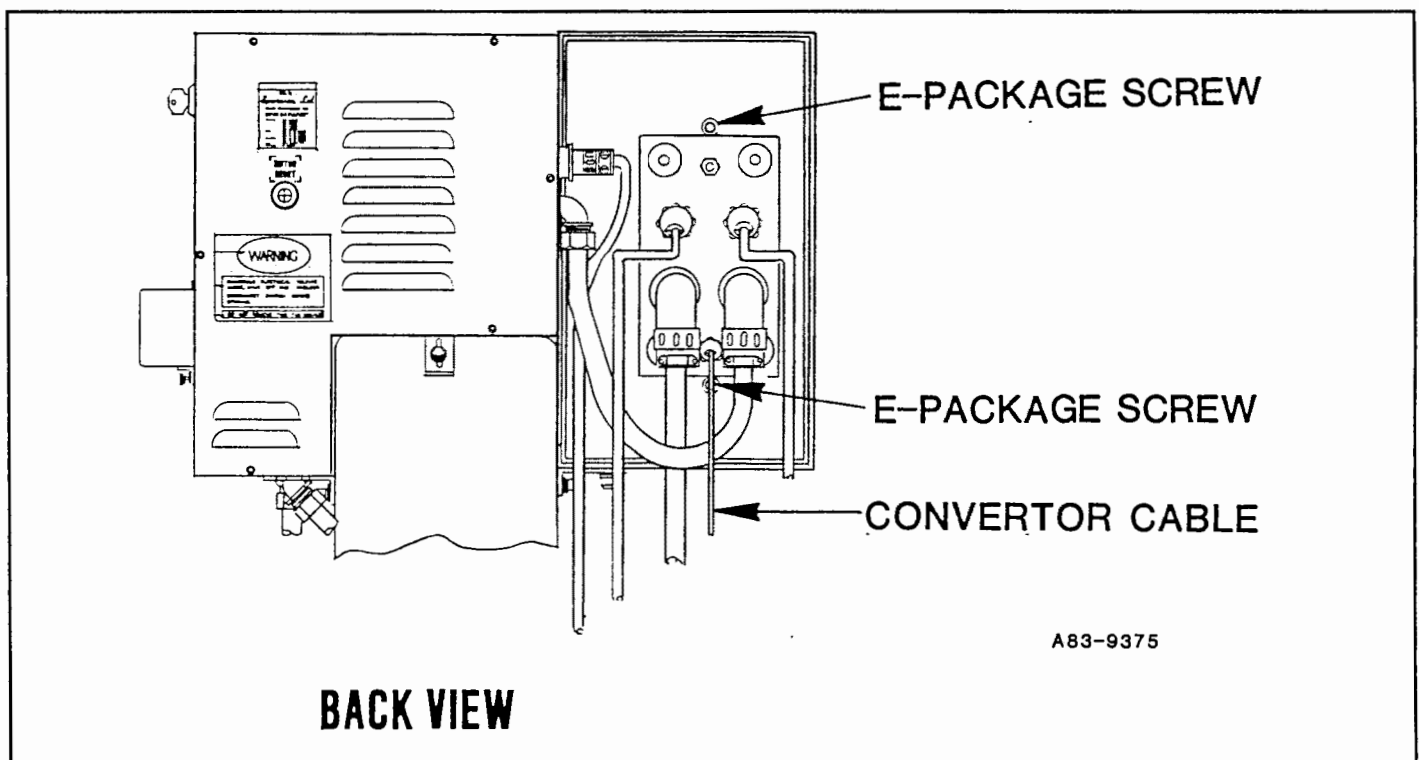

Figure 8.13 A
2. Remove hold-down guard (451) from press. Leave hold-down covers (448) and (449) attached to hold-down guard.
3. Disconnect converter cable from back of electronics package. See Figure 8.13 A.
5. Unscrew converter mounting screws (699) with 1/8" hex wrench and remove washers (700), shims (701), and converter.
7. Connect converter cable to electronics package as shown in Figure 8.13 A.
10. Unscrew electronics package screws with 3/16" hex wrench. See Figure 8.13 A.
4. Loosen (but do not remove) converter mounting screws (699) with 1/8" hex wrench.
7. Unscrew electronics package screws with 3/16" hex wrench. See Figure 8.13 A in Section 8.13.1.